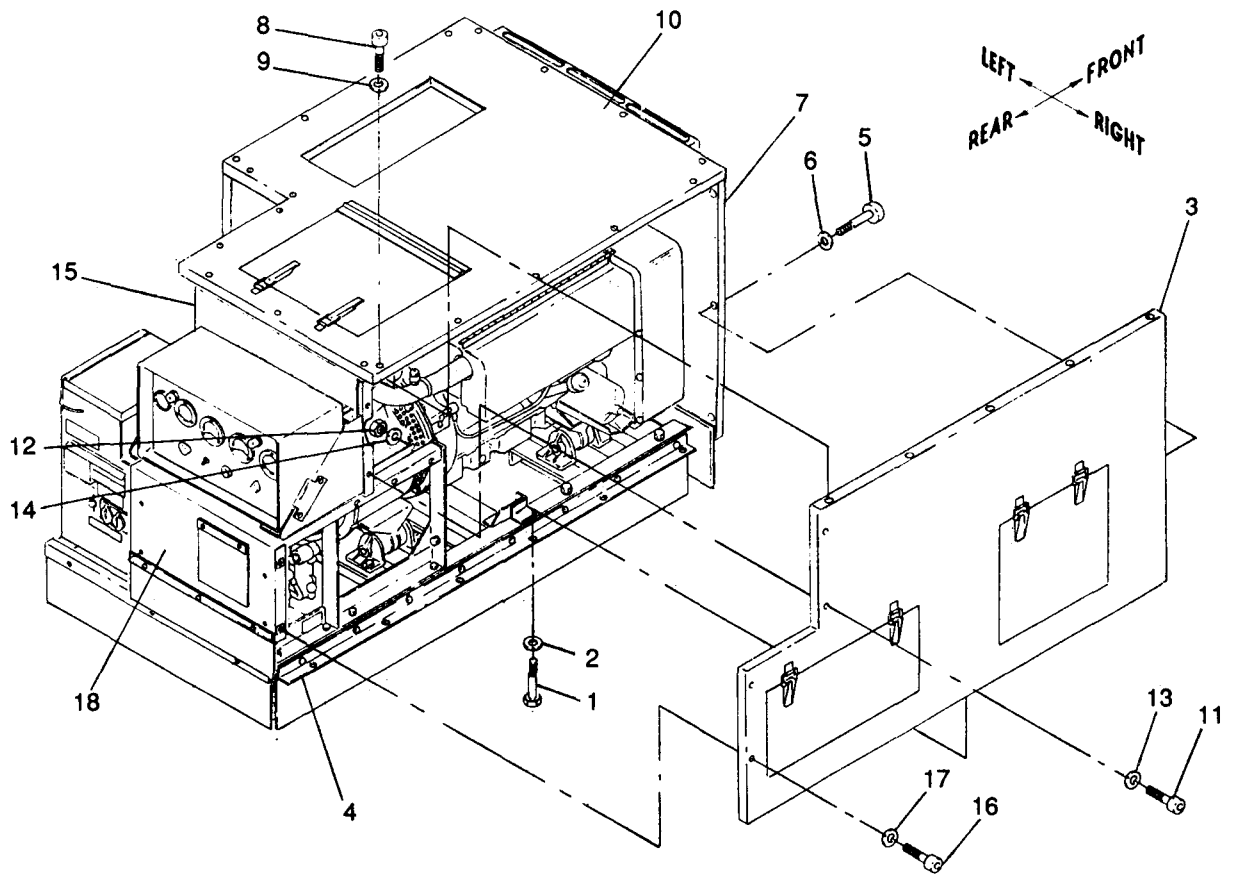

Figure 5-5. Right Panel Assembly, Removal and Installation
a. Removal. See figure 5-5. Remove right panel assembly from right support assembly, rear panel assembly, front panel assembly, top panel assembly and rear closure assembly as follows:
- (1) Remove six screws (1) and washers (2) securing right panel assembly (3) to right support assembly (4).
- (2) Remove three screws (5) and washers (6) securing right panel assembly (3) to front panel assembly (7).
- (3) Remove five screws (8) and washers (9) securing right panel assembly (3) to top panel assembly (10).
- (4) Remove two screws (11) and two locknuts (12), and four washers (13 and 14) securing right panel assembly (3) to rear closure assembly (15) and remove two screws (16) and washers (17) securing right panel assembly (3) to rear panel assembly (18) and remove right panel assembly (3).
b. Installation. See figure 5-5. Install right panel assembly to right support assembly, front panel assembly, top panel assembly, rear closure assembly and rear panel assembly as follows:
(1) Position right panel assembly (3) on right support assembly (4) and install two screws (11) and locknuts (12), and four washers (13 and 14) securing right panel assembly (3) to rear closure assembly (15) and install two screws (16) and washers (17) securing right panel assembly (3) to rear panel assembly (18).
(2) Torque screws (11) to 16 \pm 2 ft-lbs dry.
(3) Torque screws (16) to 18 \pm 2 in.-lbs dry.
(4) Install five screws (8) and washers (9) securing right panel assembly (3) to top panel assembly (10).
(5) Torque screws (8) to 18 \pm 2 in.-lbs dry.
(6) Install three screws (5) and washers (6) securing right panel assembly (3) to front panel assembly (7).
(7) Torque screws (5) to 18 \pm 2 in.-lbs dry.
(8) Install six screws (1) and washers (2) securing right panel assembly (3) to right support assembly (4).
(9) Torque screws (1) to 18 \pm 2 in.-lbs dry.